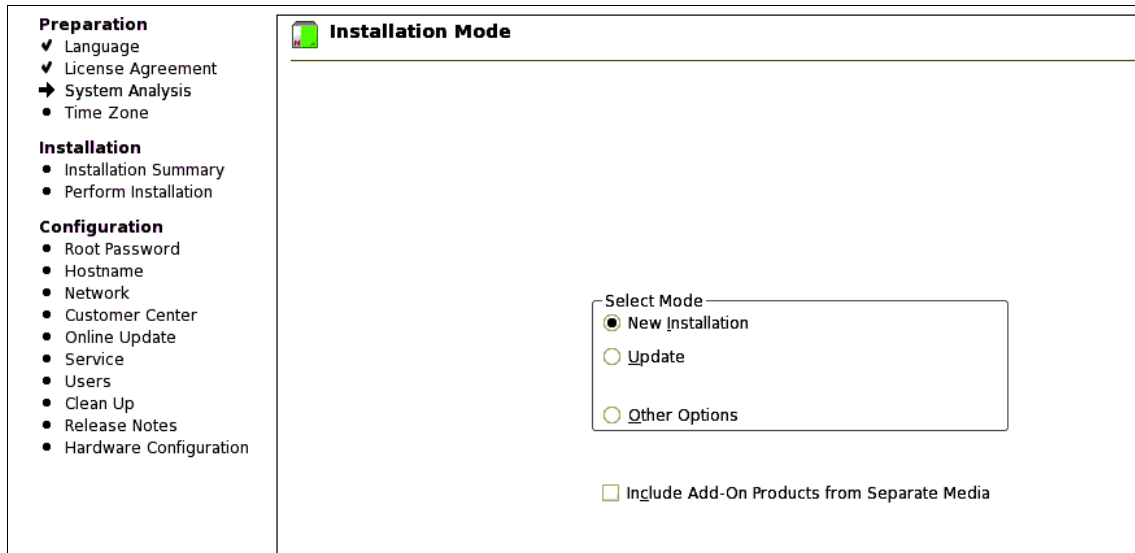

Figure 5-40 SUSE Enterprise Linux 10 Installation Mode window
3. Select the type of installation you want to use: new or update. See Figure 5-40 on page 297.